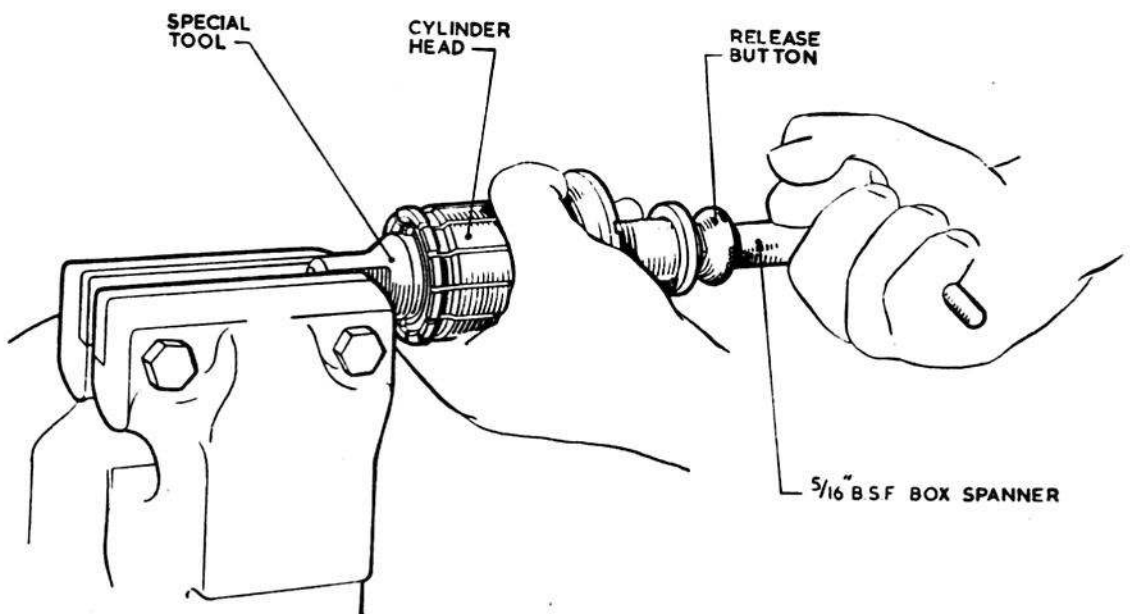

Fig. 7. Dismantling release piston
- (2) Remove the lock-nut in the release button with a  $\frac{5}{16}$  in. B.S.F. box-spanner, at the same time restraining the release piston from turning by engaging the special tool in the slots provided (fig. 7).
- (3) Pull off the release button; the release piston and spring can then be withdrawn from the cylinder head.
8. (1) Check that all parts are free from corrosion.